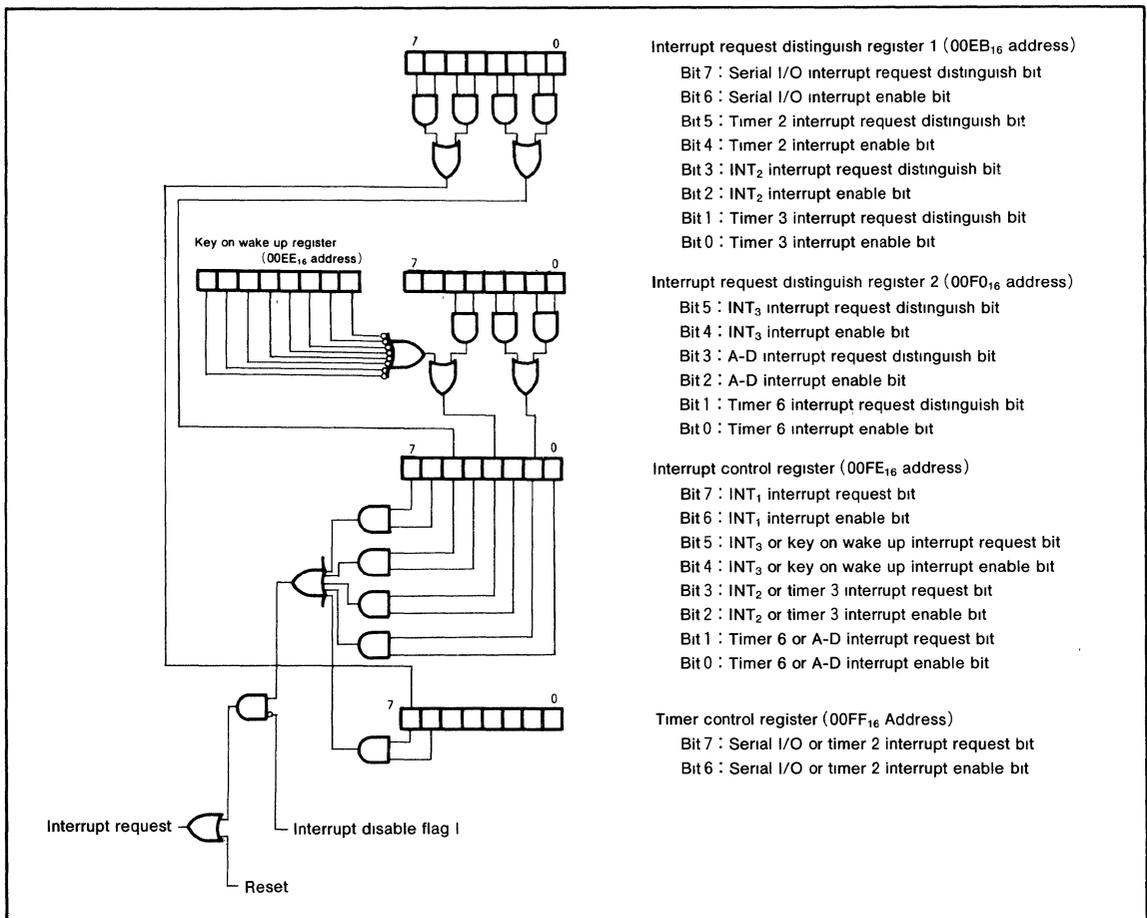

Fig. 3 Interrupt control
When an interrupt is accepted, the contents of certain registers are pushed into specified locations, and the interrupt disable flag (I) is set, and the program jumps to the address specified by the interrupt vector, and the interrupt request bit is cleared automatically. The reset interrupt is the highest priority interrupt and can never be inhibited. Except for the reset interrupt, all interrupts are inhibited when the interrupt disable flag is set to "1". All of the other interrupts can further be controlled individually via the interrupt control register shown in Figure 3. An interrupt is accepted when the interrupt enable bit and the interrupt request bit are both "1" and the interrupt disable flag is "0".